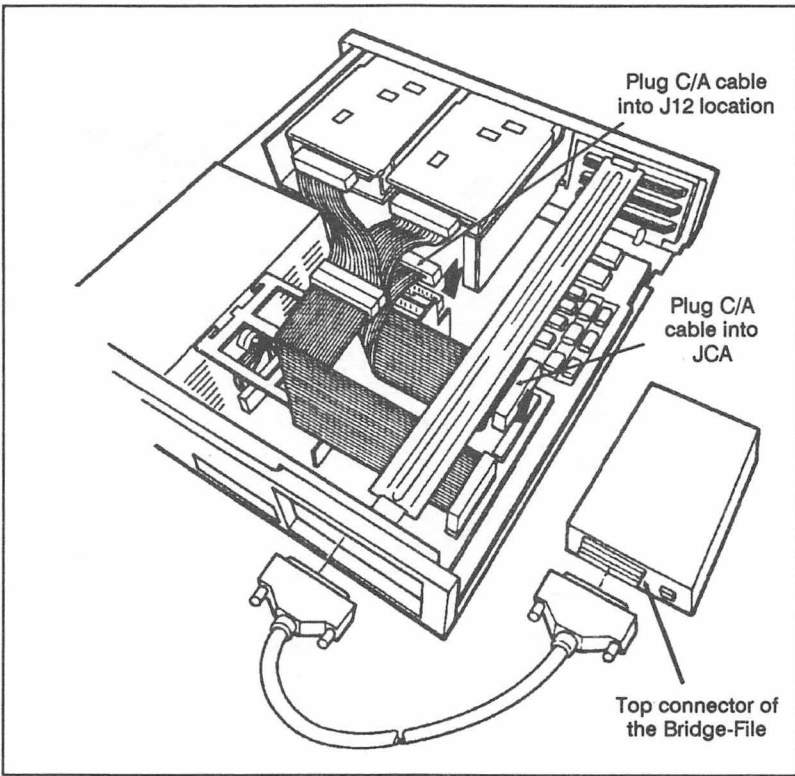

Figure 3-3. Attaching the C/A Cable in Model 30
2. Connect the Shielded Interface Cable to the connector on the back of the 1030 adapter (see Figure 3-3). Secure the cable using the two thumbscrews.